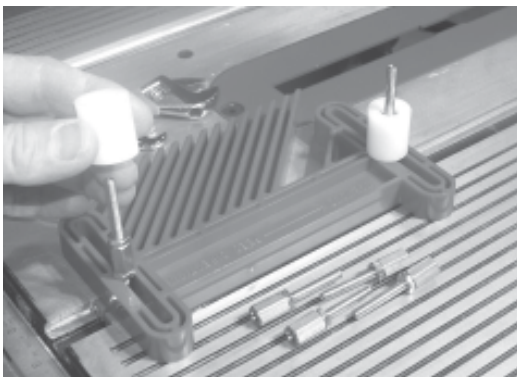

Figure 8
9. Place a 1" Tall Plastic Spacer over each stud assembly. Now place a plastic spacer over both stud and nut assemblies, see Figure 8.